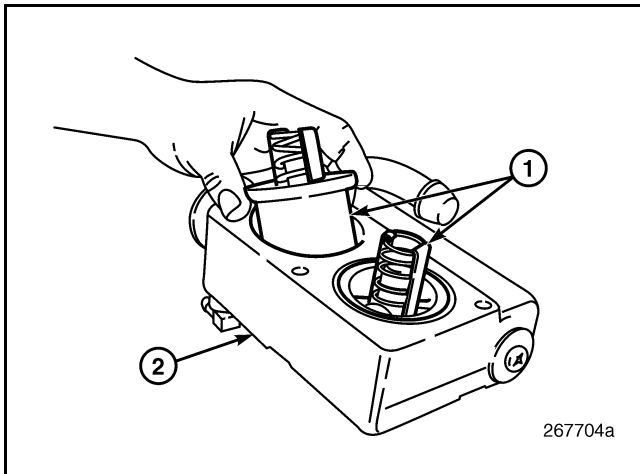

Figure 423 — Thermostat Positioning
3. Ensure the thermostat flange seal is in proper position on each thermostat (seal is an integral part of the thermostat) and place the thermostats in position in the housing bores with the valve spring up (Figure 423). Make sure that the thermostat flange seals are properly seated in the thermostat housing bore.